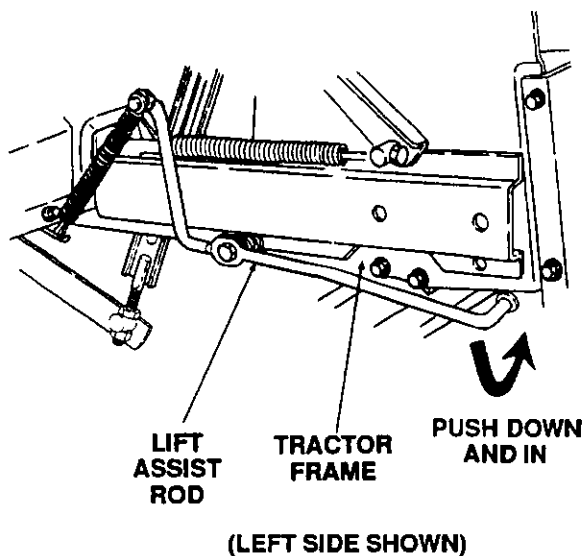

Figure 5
6. Push downward and then inward on the rearward end of implement lift assist rod so the disk (at the rearward end of the lift assist rod) is inside the tractor frame. (Refer to Figure 5.)